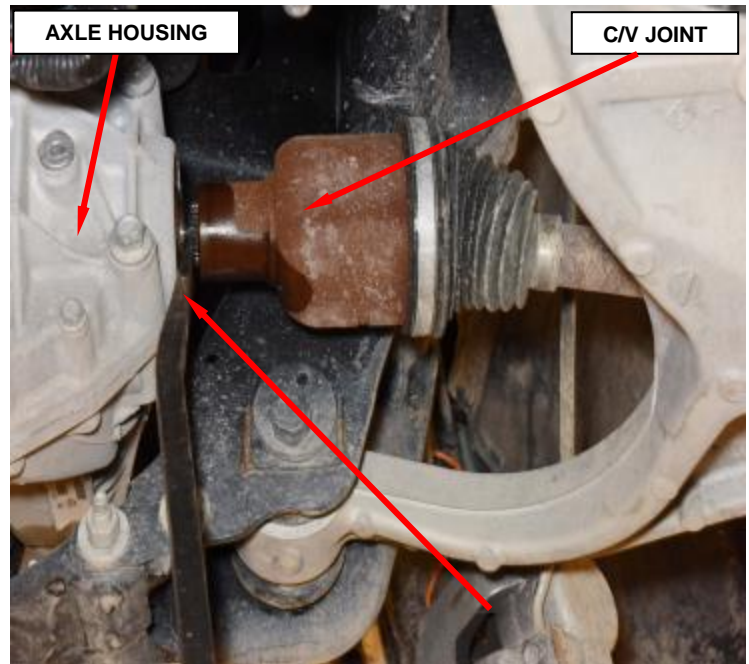

Figure 6 – C/V Joint
6. Disengage the inner C/V joint from the axle shaft with a pry bar between the C/V housing and axle housing (Figure 6).